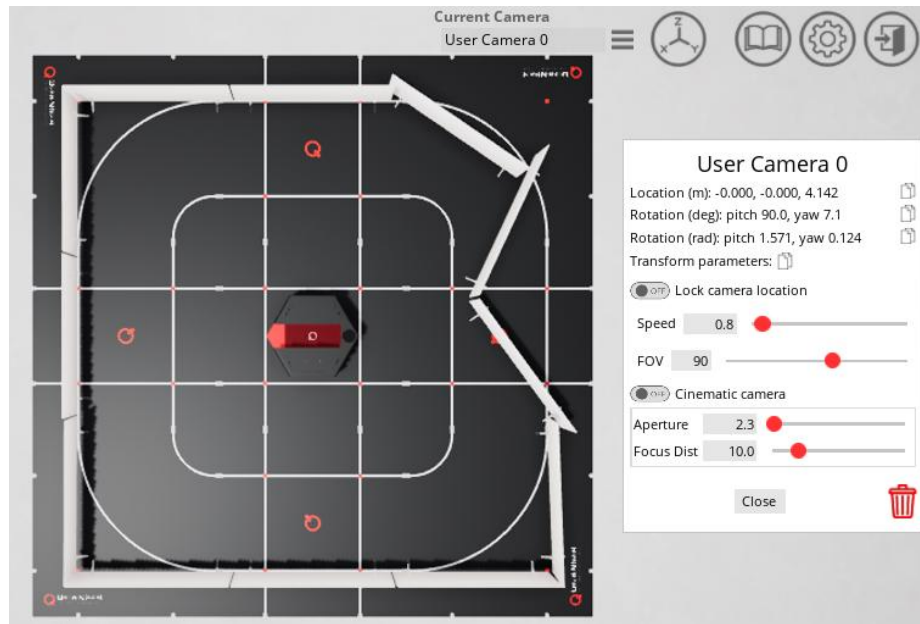

Figure 1. Successful setup of the Quanser Interactive Lab Workspace
4. Open a **second** MATLAB window. Open sensor_fusion.slx. Loading the Simulink model also triggers the setup script, qlabs_setup.m, for the Quanser Interactive Labs virtual environment. Verify that the script ran successfully by checking that the QBot and other elements have been spawned within the virtual environment in Quanser Interactive Labs, as shown in Figure 1. Open the camera menu by clicking the  icon and set the Lock camera location to the "On" position.